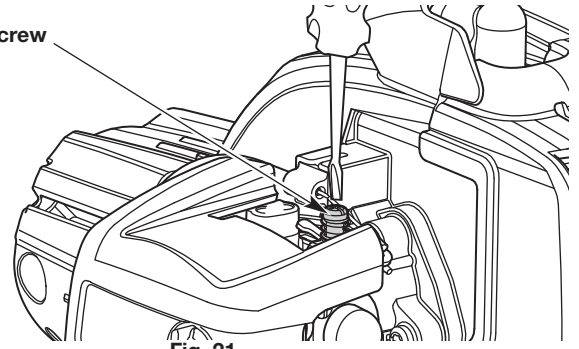

Fig. 21
- If the engine stops, increase the idle speed. Use a small Phillips screwdriver to turn the idle speed screw clockwise, 1/8 of a turn at a time, until the engine idles smoothly (Fig. 21).
- If the cutting head spins when the engine idles, reduce the idle speed. Turn the idle speed screw counterclockwise, 1/8 of a turn at a time, until the cutting head stops moving (Fig. 21).